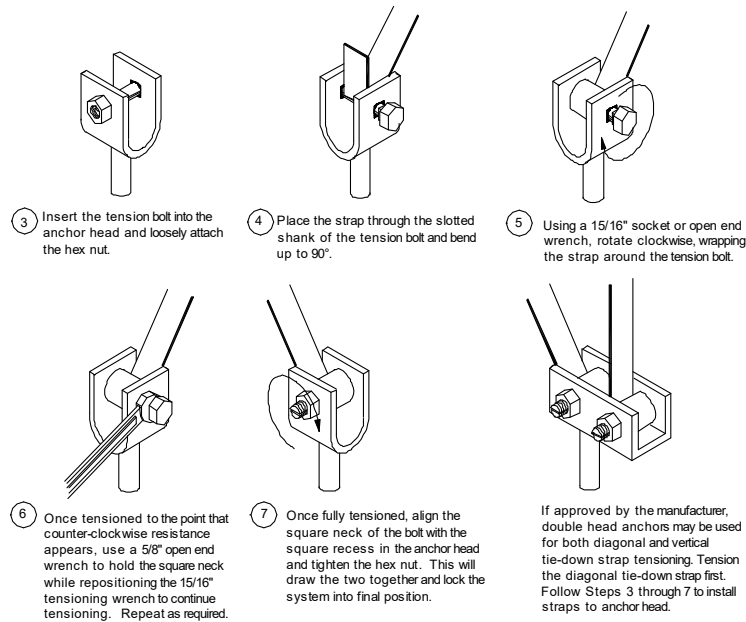

Figure 78. Procedure for connecting the strap to frame and anchor
2. **Connect strap to anchor.** Connect the other end of the strap to the split bolt in the anchor. Leave enough strap length to be able to make at least three, but no more than five complete turns around the bolt before it becomes tight (approximately 2 1/2 inches per turn or 7 1/2 to 13 inches total). Fewer than three turns and the strap may not hold onto the bolt when force is applied. Conversely, more than five turns may not fit within the U-channel of the anchor head. Follow the procedure outlined in **Figure 78**.